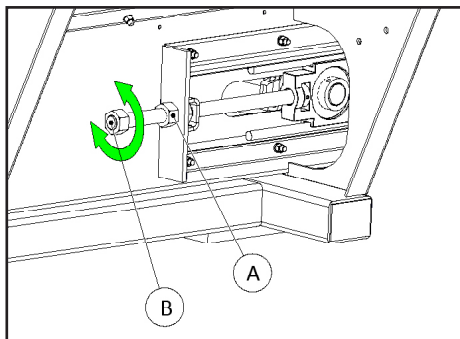
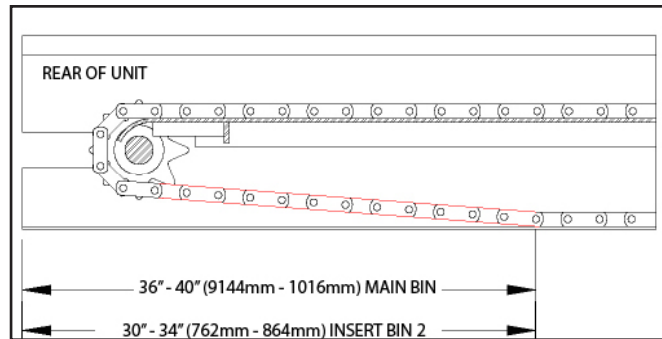

Figure 2
Figure 3
Proper chain tension is also a factor in chain and sprocket life. This adjustment is made by turning the idler screws on each side of the unit at the front idler bearings. See Figure 2. Loosen the idler jam nut (A) and turn the idler adjustment screw (B) to adjust tension. Turn clockwise to increase tension and, turn counterclockwise to decrease tension. Adjust idlers equally on each side. Measure from rear of sill to point where conveyor chain contacts bottom flange of sill. Verify that measurements on both sides of conveyor are equal and within specified range. See Figure 3.